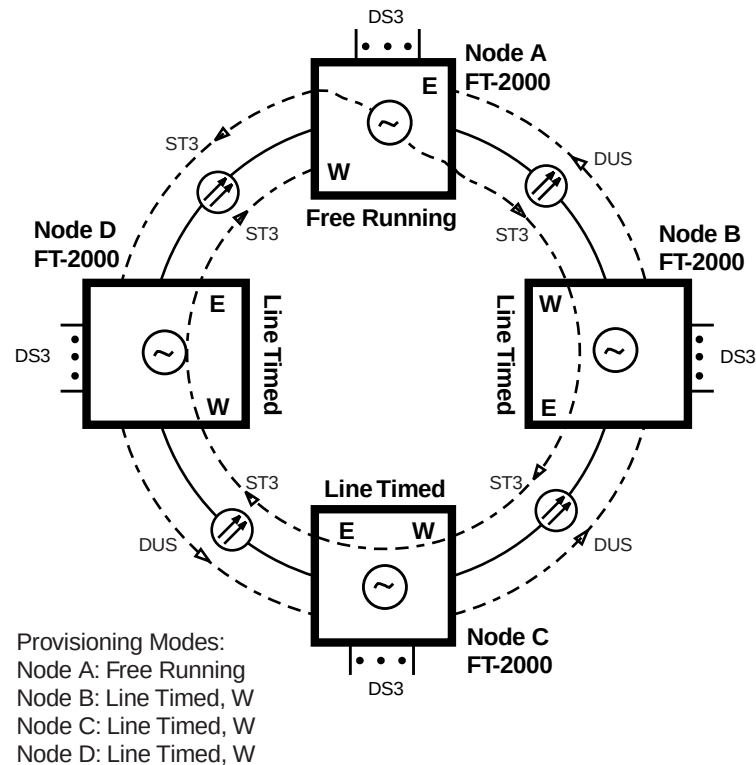

Figure 5-17. Example of a Ring Application with One Node Provisioned Free Running and All Other Nodes Provisioned Line Timed (Without Timing Drops)
- One node provisioned free running; all other nodes provisioned Line Timed:** Refer to (Figure 5-17). This configuration is used when there are asynchronous (DS3) interfaces at every node in the ring. Only one node in the ring should be provisioned free running. This prevents cumulative pointer processing on transmission signals passing through a node. In Figure 5-17, synchronization messages (DUS and ST3) are shown as they are transmitted on the OC-48 line.